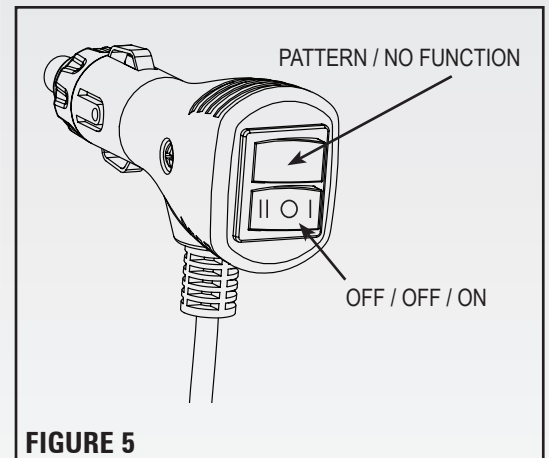

FIGURE 5
CIG PLUG OPERATION (Figure 5)
1. See Figure 5 (below) for Power ON/OFF switch and Pattern SELECT switch.
3. To change the flash pattern press and hold the PATTERN / NO FUNCTION switch for one to two (1-2) seconds until you see the lightbar flash the new pattern. The lightbar will advance one (1) flash pattern and flash the new pattern each time this is done.